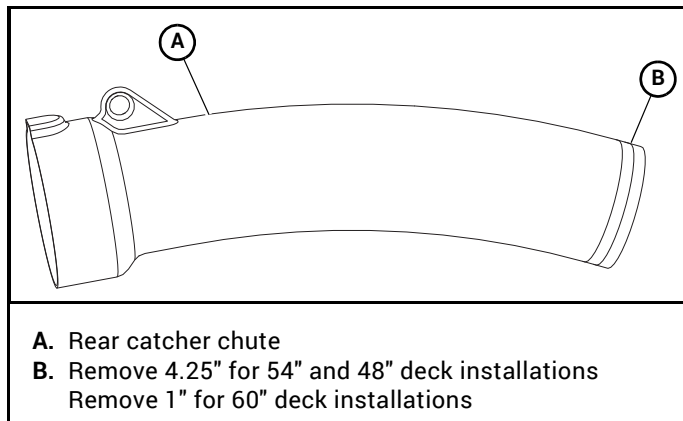
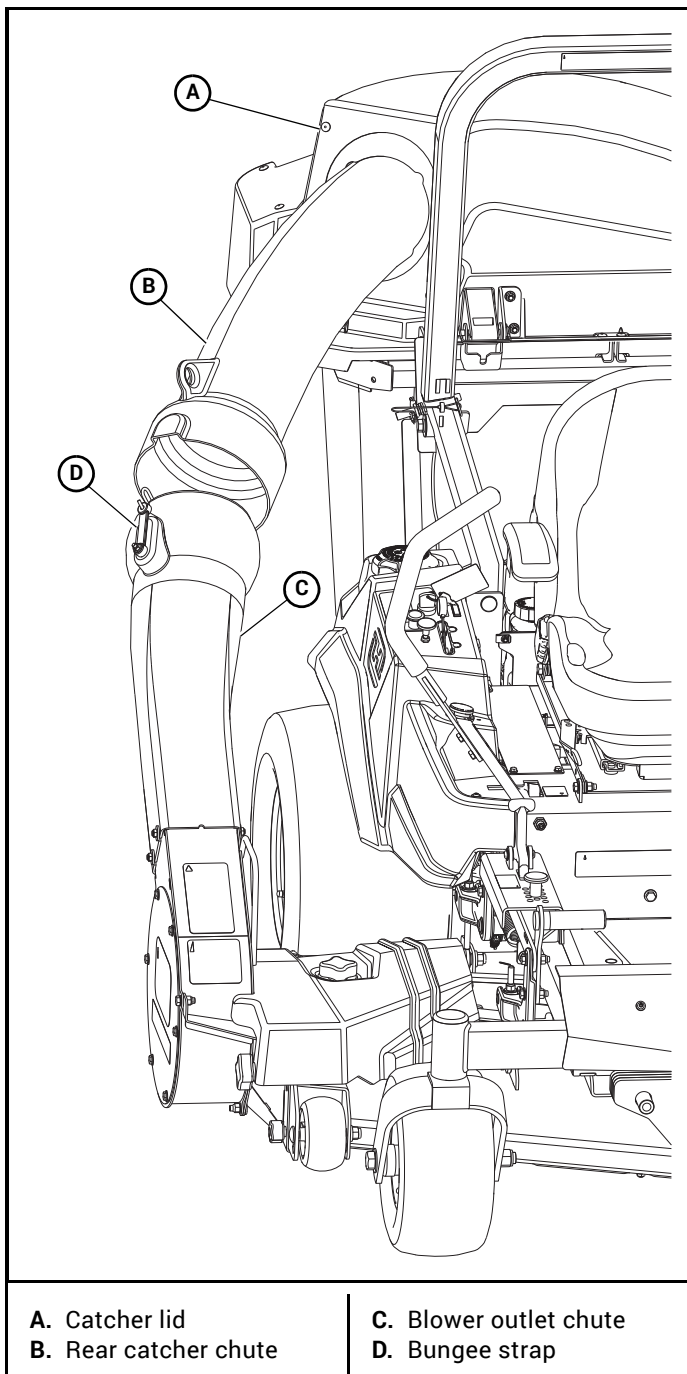

Figure 3-19
Figure 3-18
23. Insert the rear chute tube into the catcher lid. Align the slot on the blower outlet chute with the raised knob on the front catcher chute and slide together. **NOTE:** For best operation trim the back of the rear catcher chute 4.25" when installed on a 54" or 48" deck machine, and 1" on 60" decks. Figure 3-18 & Figure 3-19